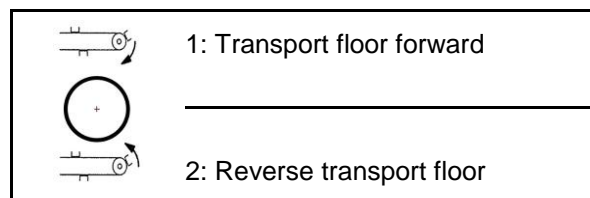
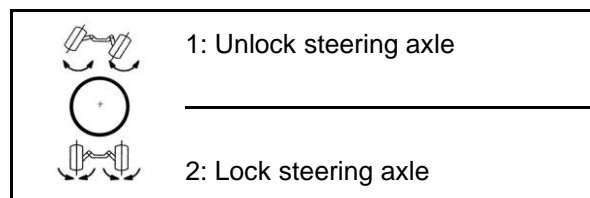

Fig. 102
Fig. 103
3. Put the **Transport floor** operating lever (Fig. 102) to switch position "2" and keep hold of it, while simultaneously putting the **Steering axle** operating lever (Fig. 103) to switch position "1" and keeping hold of it.